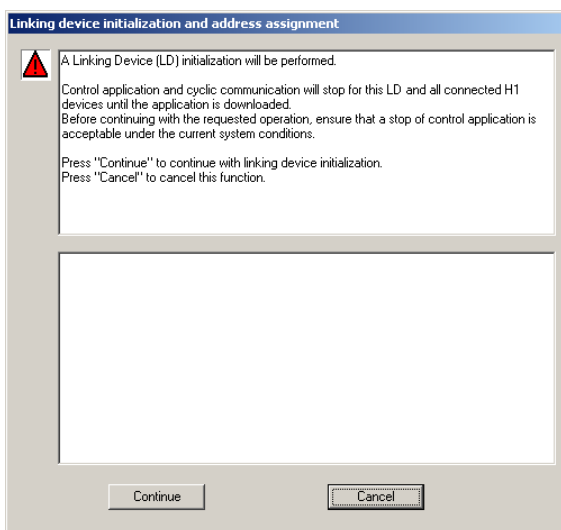

Figure 176. Linking device initialization and address assignment
7. Start the precommissioning of the linking device by means of **Continue** (refer to Figure 176).